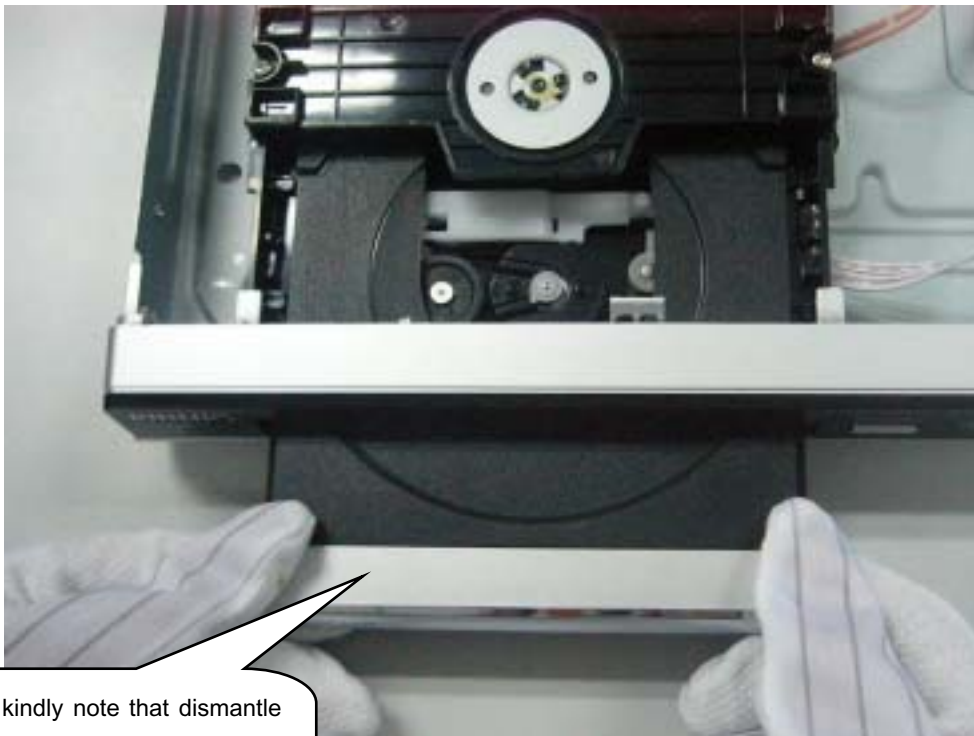

Figure 2
Step2: If it is necessary to dismantle Loader or Front Panel, It should be remove the Front door assembly first. (Figure 2)